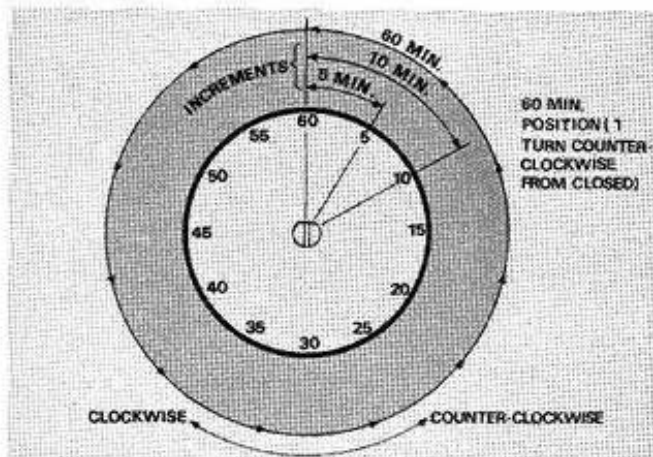

Figure 113. Adjustment Increments Used.
- d. From the position of one turn open, turn the high-speed needle in (clockwise) approximately 15 minutes (1/4 of a turn). At this point the engine speed should slow down. (See Figure 113.)